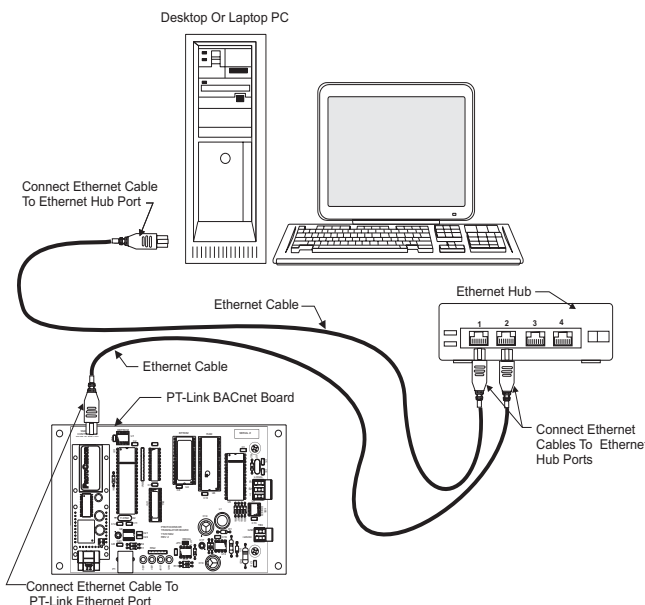

Figure 4: Connecting With Ethernet Cable & Hub
- 2.) You can also connect both your PC and the PT-Link to an Ethernet Hub with standard CAT5 cables. See **Figure 4** for details.